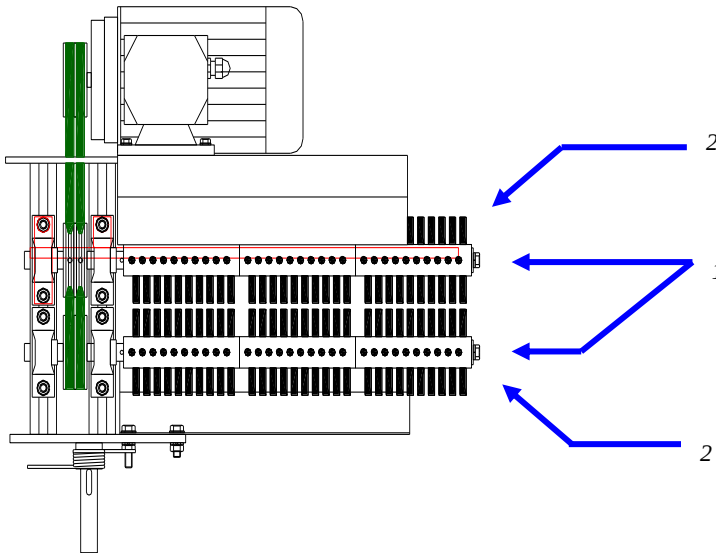
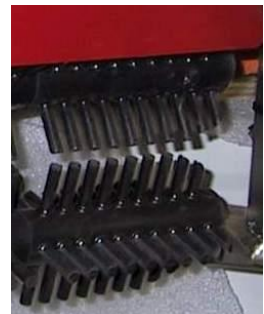

Figure 1.5.1
Figure 1.5.2
It is possible to vary the angle with which the stems are being de-leaved. In order to do so, you need to turn the lever (*figure 1.5.2*). This lever is mounted on the front of the processing cabinet. By rotating the de-leafer, you can adjust the angle of de-leafing. The maximum de-leaf length is linked with the cutting length as shown in the figure below.
- Look at *figure 1.5.1*.
- Loosen the bolts (1).
- Make sure the outer brushes are cut off at an angle. This way the bunches are guided into the brushes. For more detail look at *figure 1.5.2*.